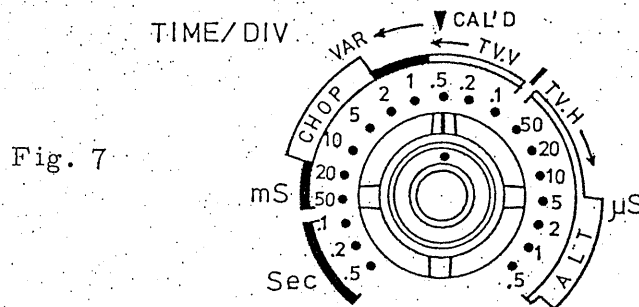

Fig. 7
The MODEL 5512 has no individual push button for CHOP and ALT modes but has the DUAL button (11) only. In fact, sweep mode selection is linked with the TIME/DIV switch. The sweep circuit operates in the CHOP mode for 1ms or less 1ms/DIV and in the ALT mode for 0.5ms/DIV or more as shown in Fig. 7.